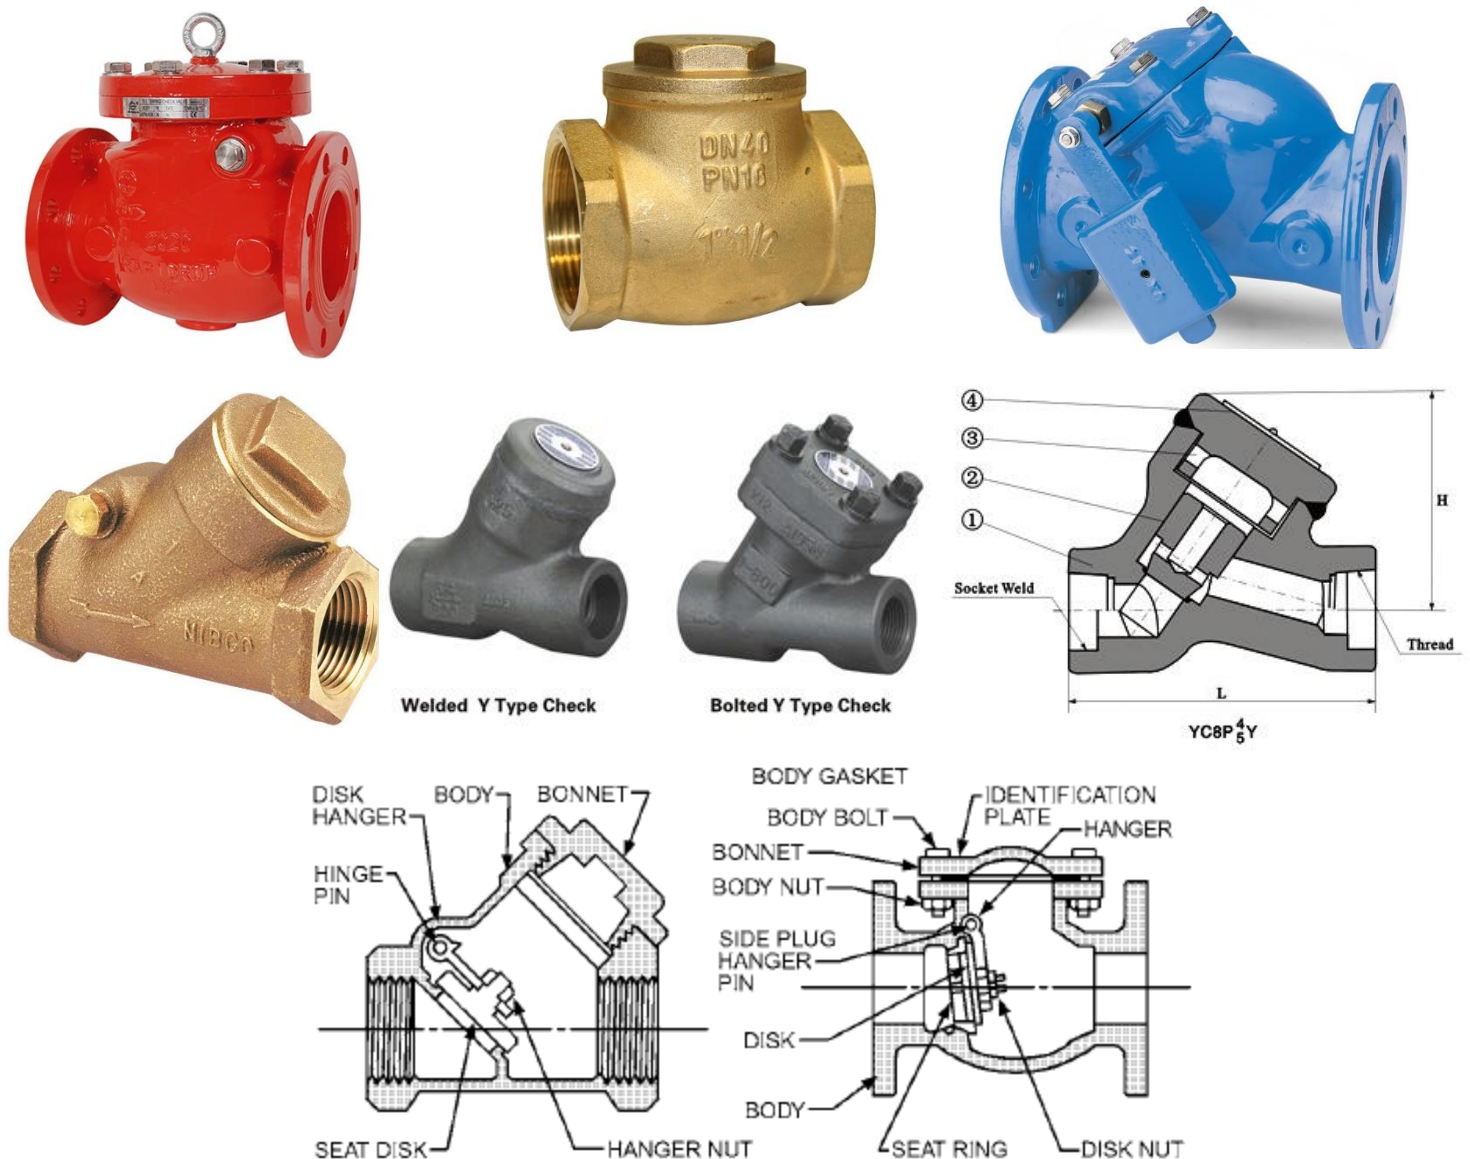

Fig. 28 Swing Check Valves
- Have hinge-mounted disks that open and close with flow (Figure 28).